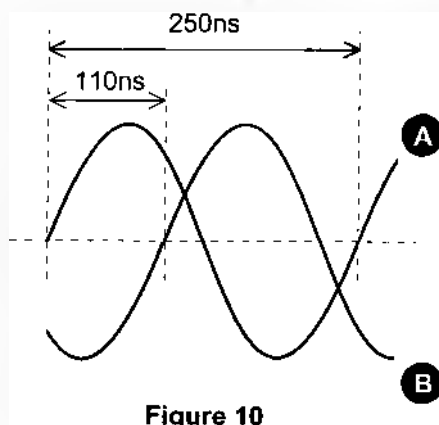

Figure 10
3. What is the phase difference between the sinewaves in Figure 10?
For example, if sinewave A in Figure 10 is the reference, sinewave B is -158.4° out of phase with it. Alternatively, if sinewave B is the reference then sinewave A is $+158.4^\circ$ out of phase.